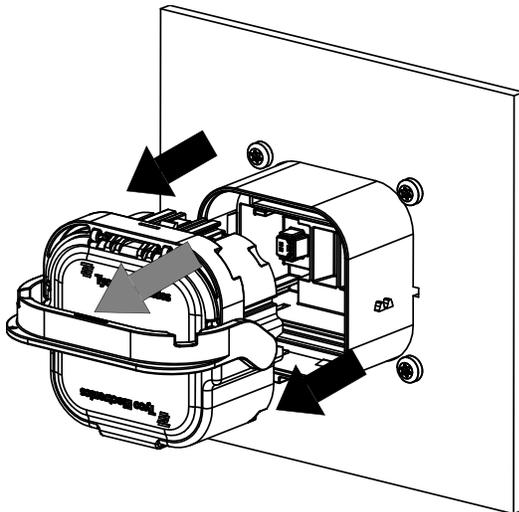

Figure 11
5. Pull straight back on the plug in order to disengage it from the receptacle as shown in Figure 11.